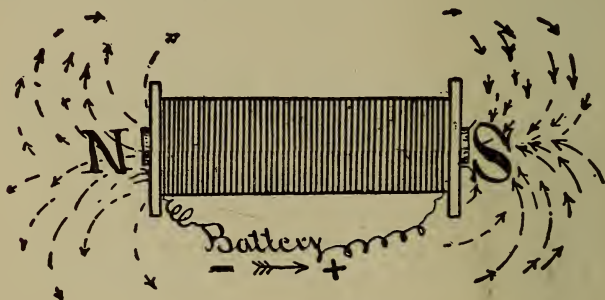

Fig. 93. An Electro-Magnet with its Magnetic Field.
Fig. 93 shows this, as well as the lines of magnetic action.
(5) The helix or coil is usually not wound on the core but on a spool of brass or bronze. The ends of this spool are called the flanges and show in Fig. 93.
(6) On horse shoe magnets the iron connecting the two cores is called the yoke.
*Question 10.* Why is the left end an N-pole and the right end a S-pole. (In Fig. 93).